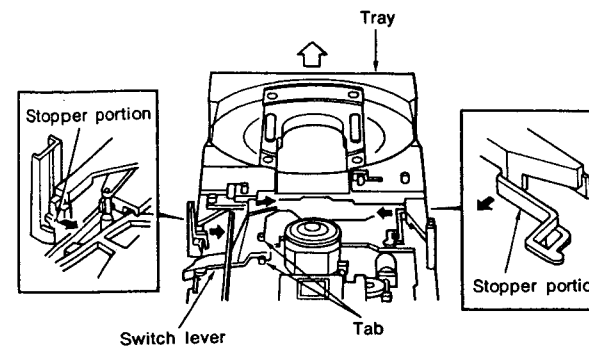

Fig. 1
**1. Parts replacement of the tray mechanism (Figs. 1 and 2)**
Open the tray and use a flat-bladed screwdriver to press the stopper portions of Fig. 1 (one each in the left and right locations) in the direction of the black arrow, then remove in the direction of the white arrow.
**(2) Mounting of the tray (Figs. 1, 2, and 3)**
**(8) Replacement of the switch lever (Fig. 1)**